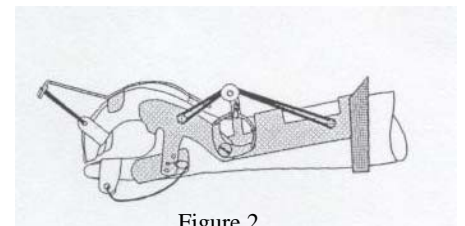

Figure 2
5. There are three different treatment objectives that might be considered for the WAWHO (refer to Figure 2) and they are.....(3 points)
6. If extension assists were used for the wrist, fingers and thumb for the orthosis in Figure 2, what injury would you likely be treating? (1 point)